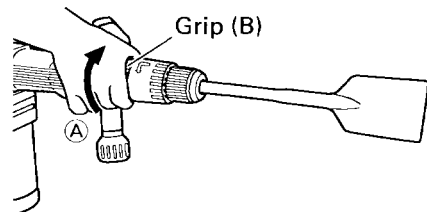

Fig. 5
- (2) As shown in Fig. 5, if grip (B) is turned 60 degrees in the direction of (A), the holding part of the tool automatically turns 30 degrees. If this action is repeated, the blade angle of the tool can be changed by every 30 degrees.
- (3) Release grip (B) and turn the tool, and make sure that it is locked completely.